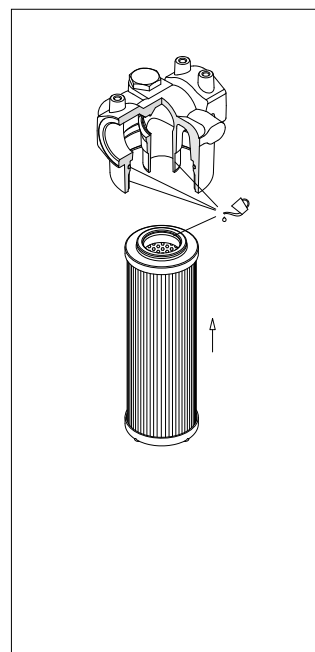

fig. 20
- (Fig. 20) Lubricate with the operating fluid the filter element O-ring, the housing tap, O-ring and cavity, then fit the filter element on the tap. Pay attention not to damage the O-ring seal.